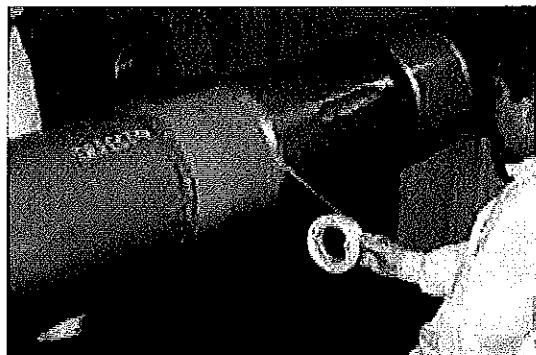

Figure 18
- 4.16 While maintaining steady pressure, secure the Clock Spring® in position by wrapping filament tape around the sleeve at least three times, approximately 1-inch (25 mm) from each edge (Figure 18).